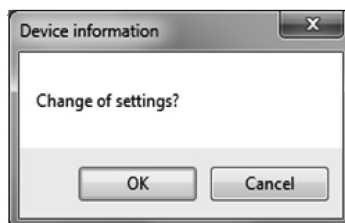

Fig.71
- ⑤ After all settings are complete, click the "OK" button to display a message box (Fig. 71).
- ④ After the setting is complete, click the "OK" button to display a message box (Fig. 71).